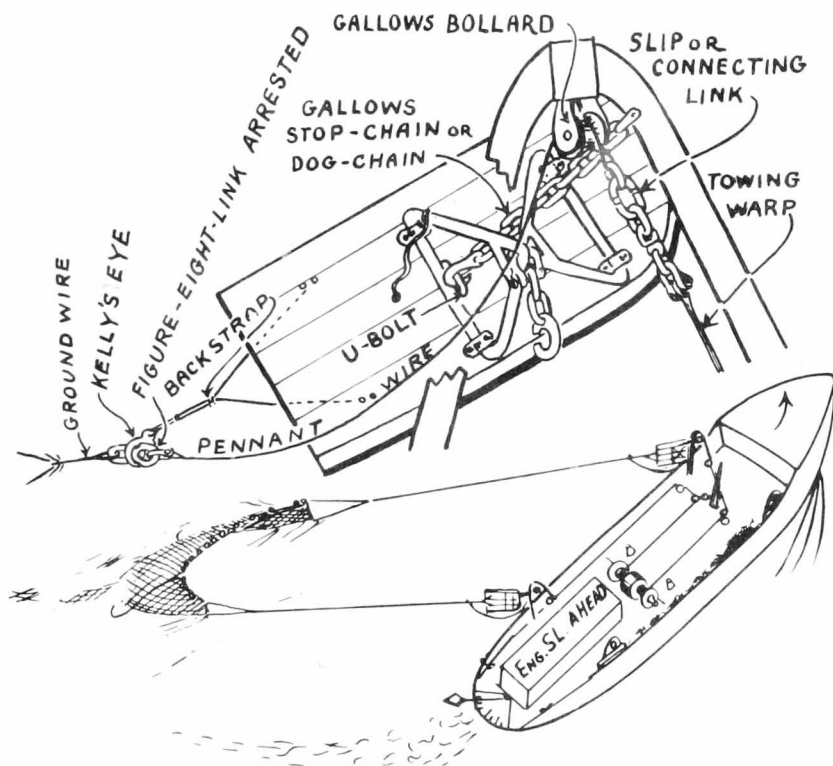

Fig. 4. Course of Vessel While Running Out Ground Wires. Inset Shows Ground Wire Connection Arrested in Kelly's Eye.
8. The ground wires are run out the desired length and the stopper or figure-eight link is arrested in the Kelly's eye (fig. 4).